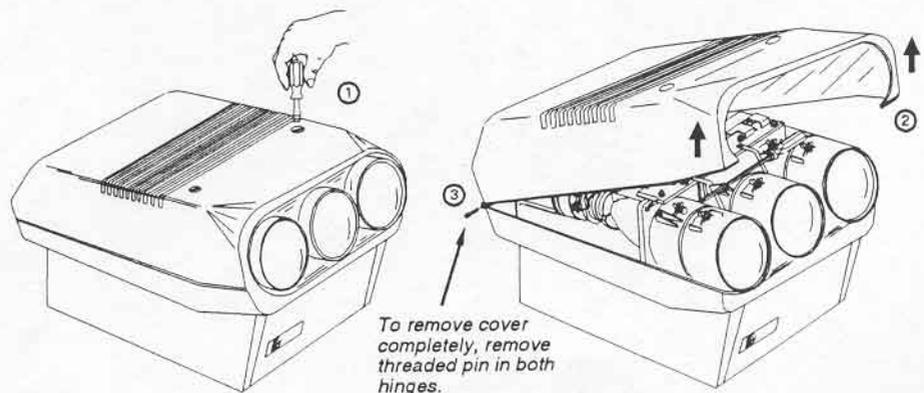

Figure 5-2. Cover Removal
- b) Locate the two slot head fasteners on the projector's top cover. Using a large slot screw driver, turn the head of each fastener approximately 3 turns counter-clockwise. See Figure 5-2. At the front of the projector, grasp adjacent sides of the top cover and gently lift it away from the projector body. The cover hinges at the rear.